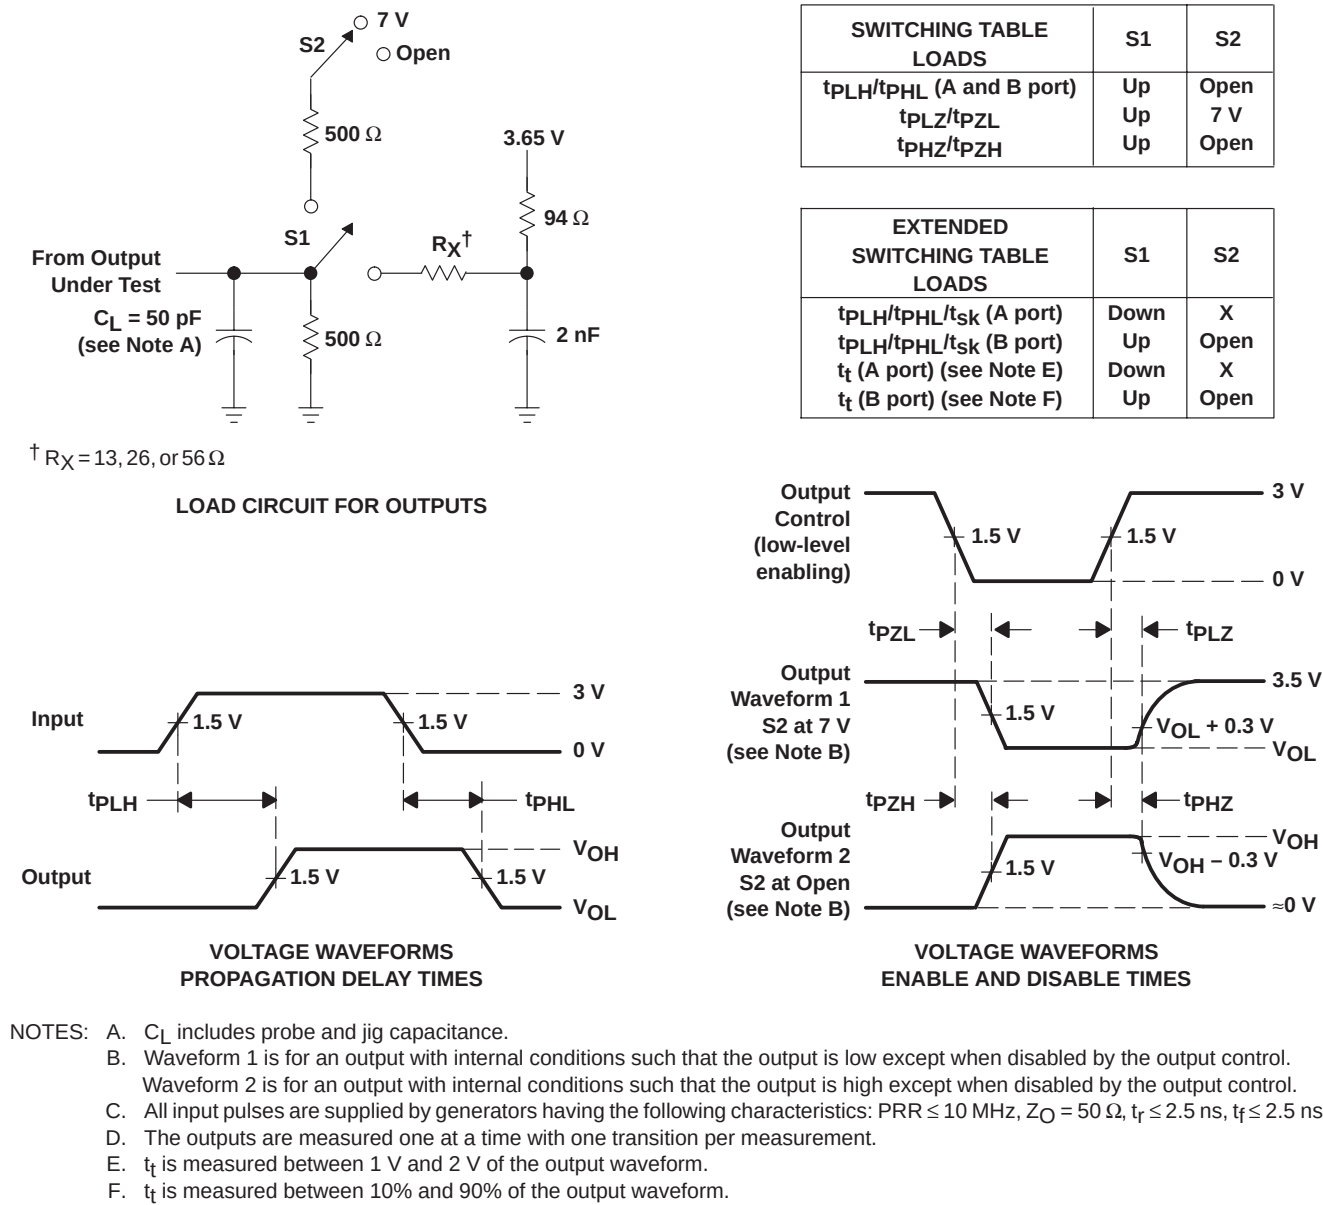

Figure 2. Load Circuit and Voltage Waveforms
extended switching characteristics over recommended ranges of supply voltage and operating free-air temperature,  $C_L = 50$  pF (unless otherwise noted) (see Figure 2)
- D. Load skew,  $t_{sk(load)}$ , is measured with  $R_X$  in Figure 2 at  $13\ \Omega$  for one unit and  $56\ \Omega$  for the other unit.